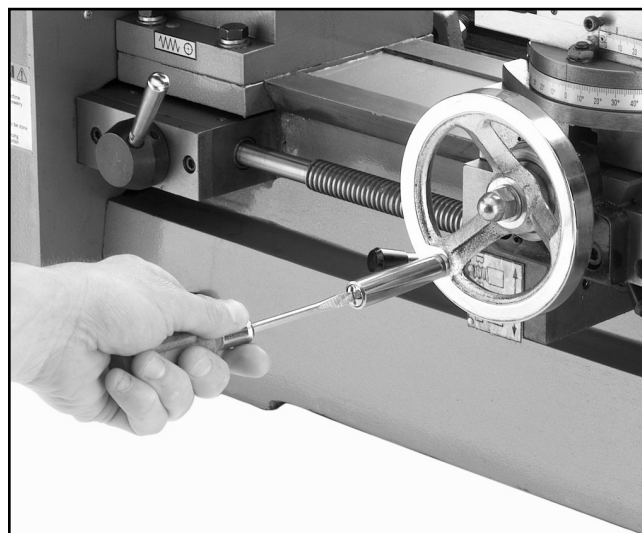

Figure 4. Secure the handle with a screw driver.
4. Secure the handle for the handwheel with a screw driver as in **Figure 4**.